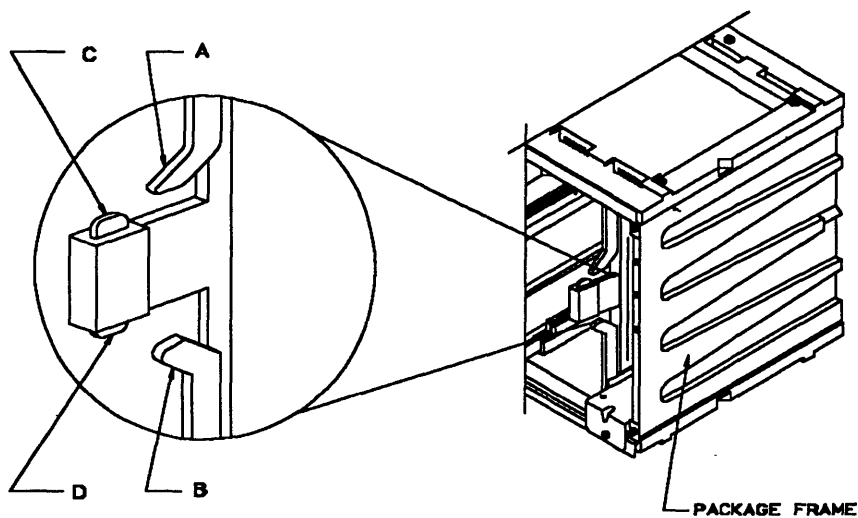

Figure 5-162. Card Clamp Mechanism
- c. Check that the cards are labelled according to their positions, if not, label them. Refer to Figure 5-162 and remove the cards as follows: